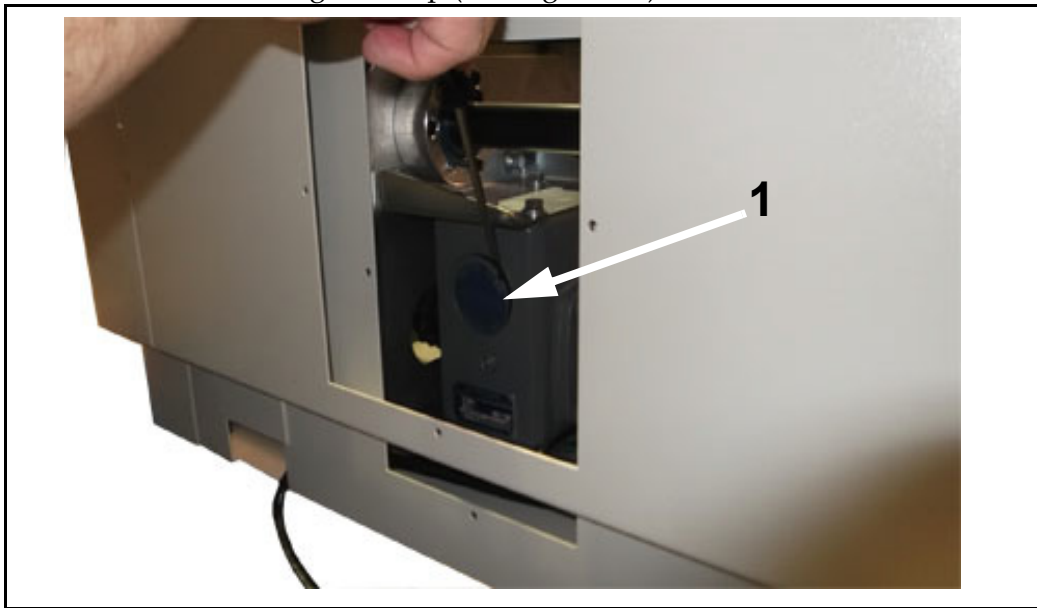

Figure 5-6. Grease Cap
- 6 It is necessary to remove the grease cap to access the rear hub of the input shaft. Using a small, flat screwdriver and hammer, carefully pry off the grease cap (1 in Figure 5-6) and set it aside.